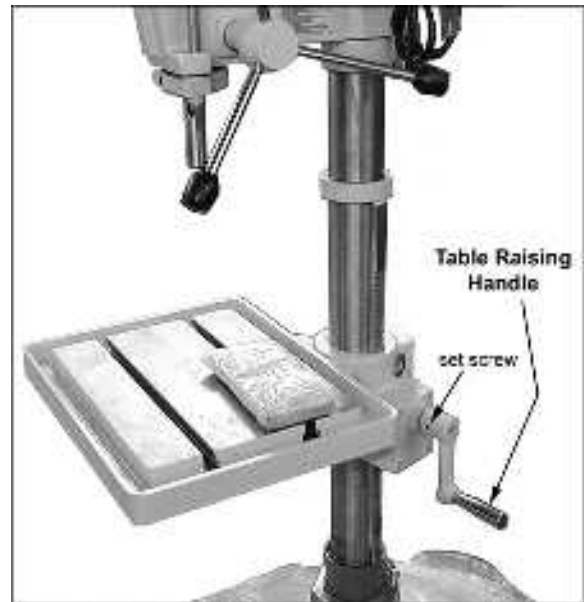

Figure 6
8. *Figure 6:* Install the table raising handle and tighten its set screw. Rotate the handle to move the table up and down the column, checking that movement is smooth and rack has been correctly installed.